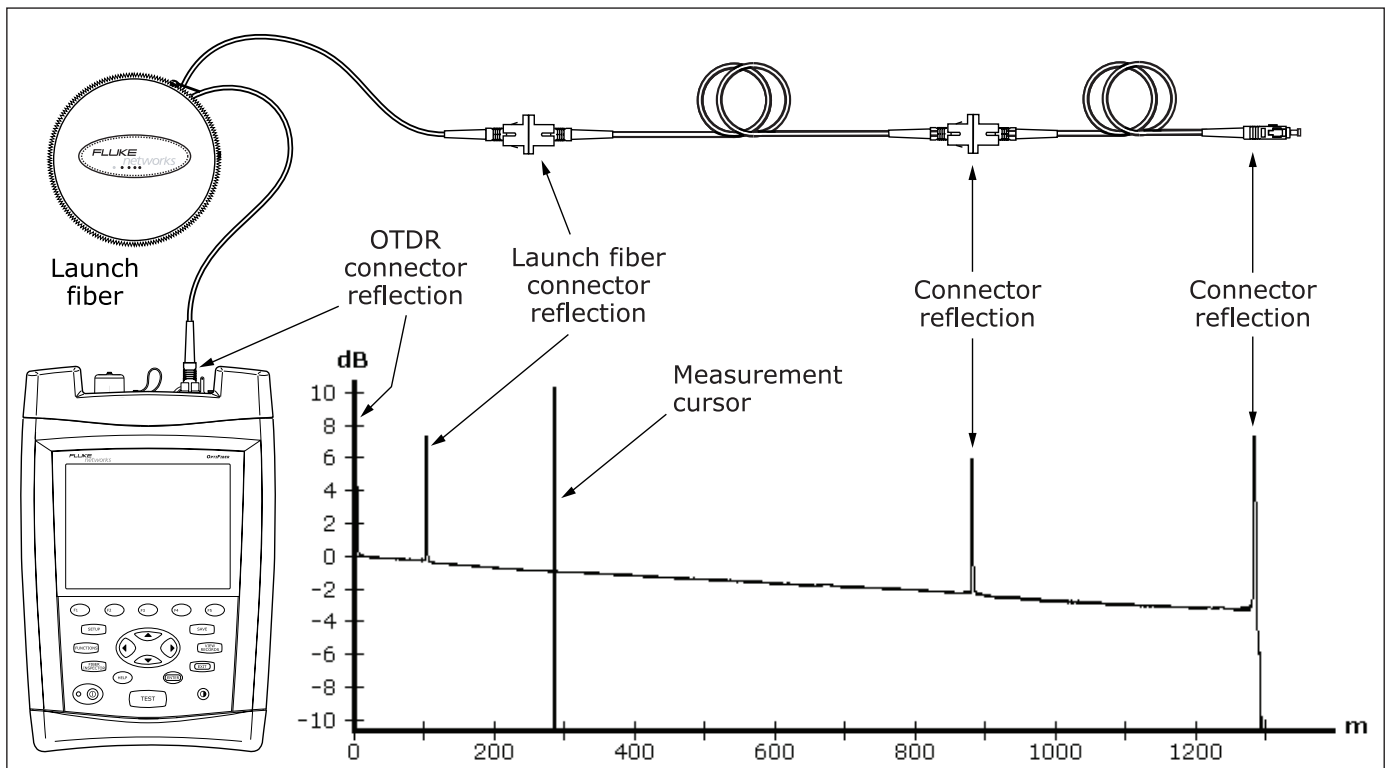

Figure 2-2. Typical OTDR Connections and Trace Features
4-2 Connect the launch fiber to the tester and to the cabling. Figure 2-2 shows these connections and typical features on an OTDR trace.
- To see the OTDR trace, press **F1** **View Trace**. Figure 2-2 shows some features of a typical OTDR trace.